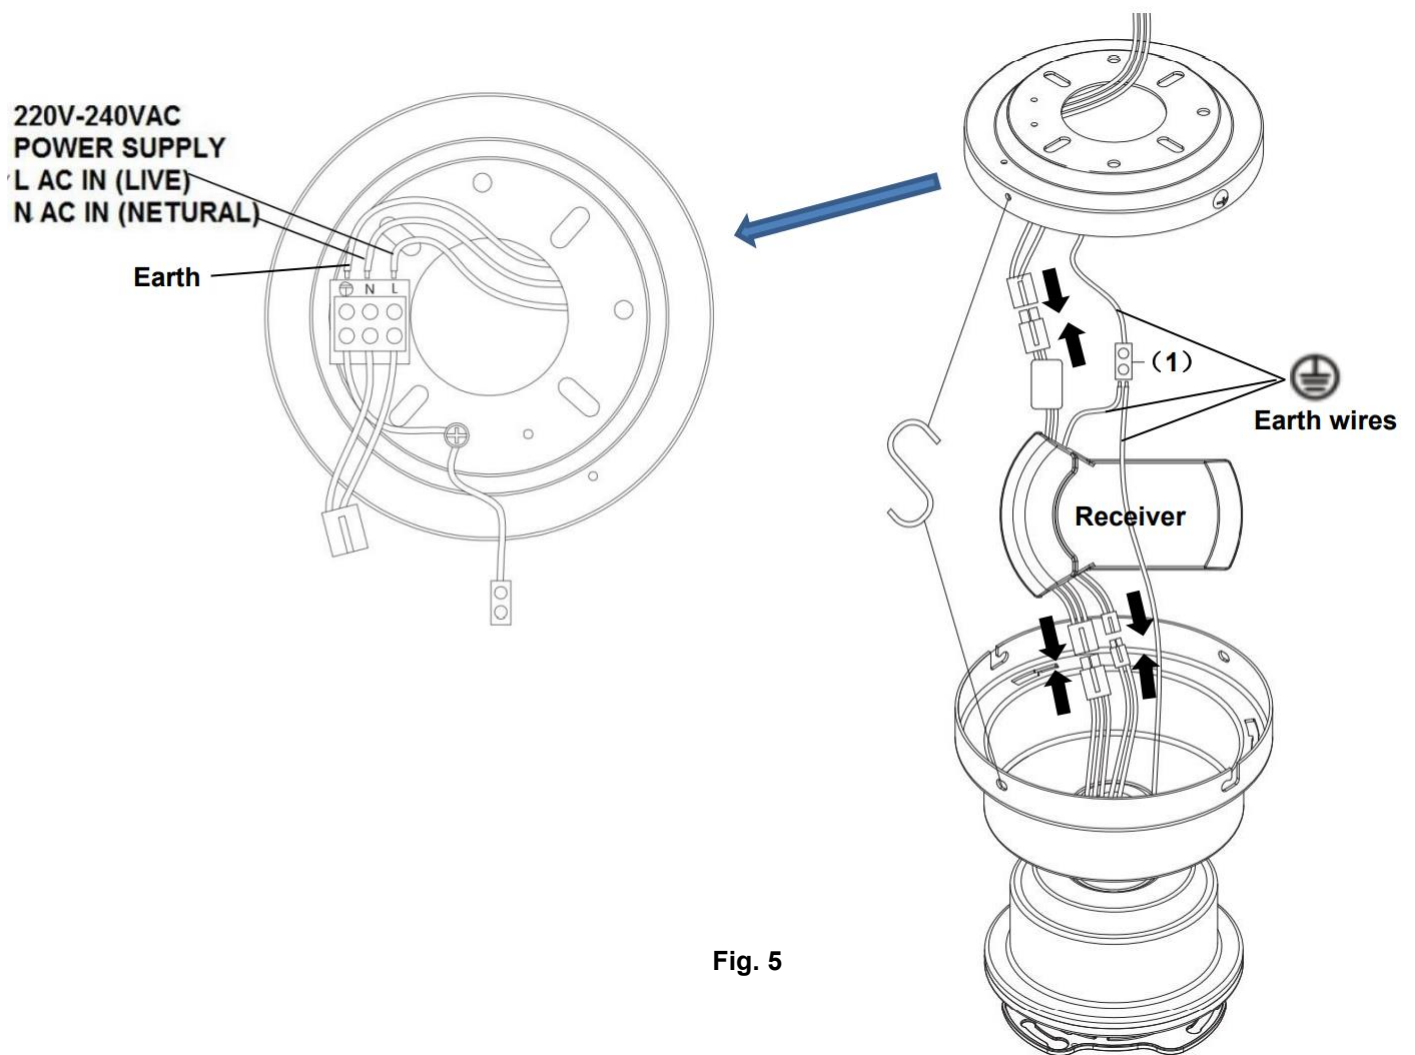

Fig. 5
From mains supply to mounting bracket terminal block: (Fig. 5)
From mounting bracket to receiver and motor: (Fig. 5)
6. Connect the receiver earth and the motor earth wire are connected to the single earthing terminal block(Fig. 5)